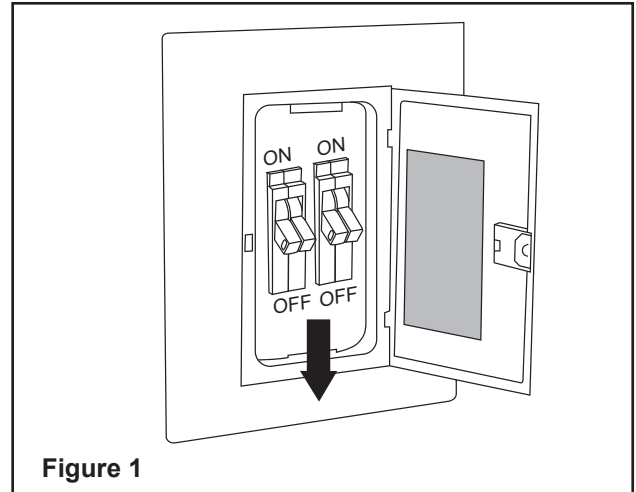

Figure 1
- 1. Turn off circuit breakers and wall switch to the fan supply line leads. (Figure 1)
Attach the mounting plate (A) to the outlet box (not included) with two screws and washers provided with the outlet box. Make sure the mounting plate (A) is tight and secured. (Figure 1)
**NOTE:** It is very important you use the proper hardware when installing the mounting plate (A) as this will support the fan.